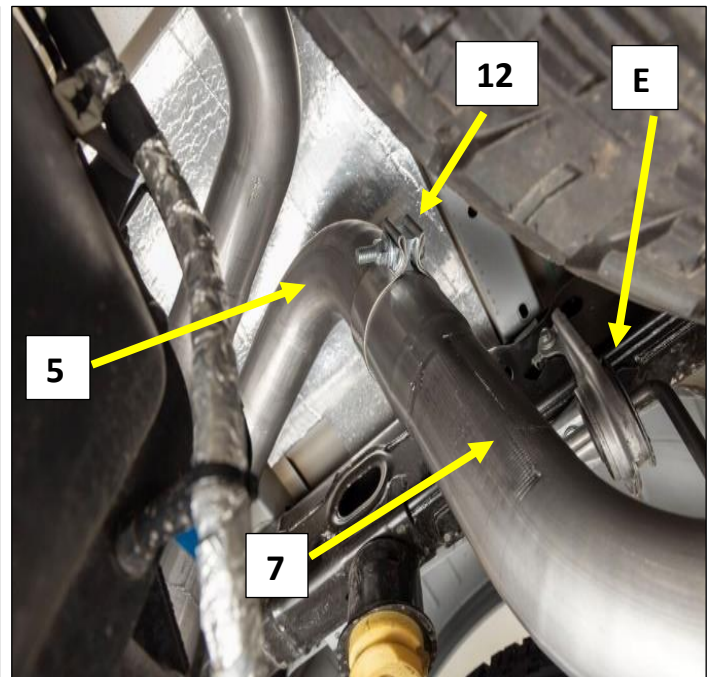

Figure 14
3. Install a 3" band clamp (12) on to the expanded end of the right tailpipe. **Fig. 14**
4. Install the right tailpipe (7) on to the right muffler outlet pipe (5). **Fig. 14**
5. Install the right frame hanger (E) on to the tailpipe hanger rod. Install the (x2) bolts. **Fig. 14**
6. Tighten the clamp (12) to allow for adjustment. **Fig. 14**